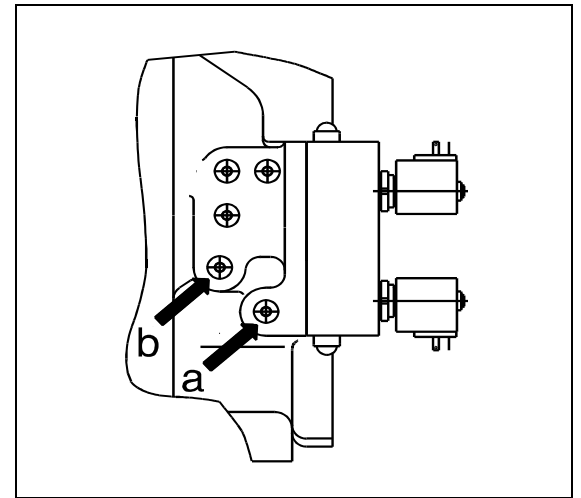

Figure 3: Arrangement of the screw plugs in the hydraulic spaces of the capacity control
- Loosen the screw (67) to release the tension spring (73).
- ATTENTION!** Remove the tooth lock washer (700) between the screw in piece of the tension spring and the closure flange (21)! See photo below.
- Instead of using the screw (67), screw a threaded rod of the removal device T2 into the screw in piece of the tension spring.
- Loosen the screw plug (74) from the hydraulic space of the capacity control and drain the oil.
- Loosen the side screw plugs of the hydraulic spaces next to the valve block (51) (figure 3).
- Adjust the control slide (113) to the max. end position (towards the suction side) by hand with the aid of a piece of threaded rod.
- Removing the position sensor (123) from the cover of the capacity control (104):
- Place the control slide (113) in the min position (towards the discharge side) by using the threaded rod of device T2. Install the rod through the corresponding opening on the discharge side of the closure flange (21) and thread it into the tension spring.
- Calibrate the position sensor on the suction side cover of the capacity control (104) according to section 7.2.
- Loosen the threaded rod and assemble a socket head screw in its place. **ATTENTION:** Install a new tooth lock washer (700) between closure flange (21) and the screw in piece of the tension spring (73)! This pretensions the tension spring (73). For compressors with Vi adjustment, place the sealing ring (100) under the screw head.
- Attach the seal flange (66). For compressors with Vi adjusting device, assemble the cover (90) according to section 6.5, b) and c).
- Install and tighten the screw plugs and seal washers (74, 75) to the lower side of the compressor and the screw plugs next to the valve block (51) according to figure 3.